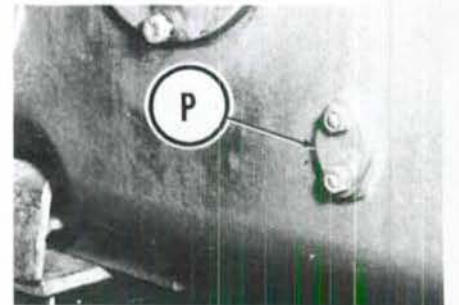
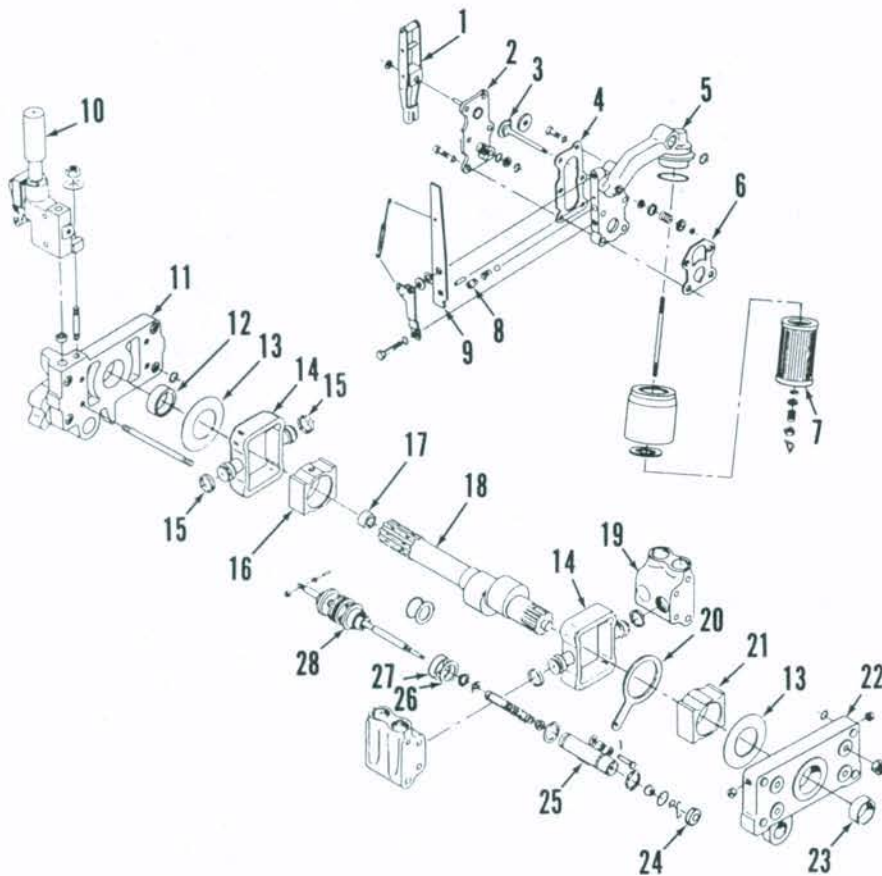

Fig. 228—Hydraulic pump positioning dowel pins (P) are located on each side of differential housing.
Fig. 237—Exploded view of main hydraulic pump. Thrust washers (13) are not used on early production pumps.
lapse and remove the drive shaft coupler and remove pto output shaft. Remove the dowel pin (P—Fig. 228) from each side of rear axle center housing, then lift hydraulic pump out through top opening.
On models equipped with ipto, Multi-Power and/or auxiliary hydraulics, drain the system and remove hydraulic lift cover as outlined in paragraph 207. Remove transmission top cover. Remove step plates and disconnect brake rods. Disconnect Multi-Power pressure line (if so equipped). Support transmission and differential housing separately, remove flange bolts and separate tractor at rear of transmission housing. Disconnect and remove auxiliary pump hydraulic lines leading to side cover and ipto clutch valve on models so equipped. Remove pump mounting dowel (P—Fig. 228)
To remove the main hydraulic pump on models not equipped with ipto, Multi-Power and/or auxiliary hydraulics, first drain hydraulic oil. Remove lift cover as outlined in paragraph 216. Remove the adjusting block and upper tube and spring from servo valve (10—Fig. 237). Collapse and remove the drive shaft coupler and remove pto output shaft. Remove dowel pins (P—Fig. 228) from each side of differential housing, then lift hydraulic pump out through top opening of housing.
nect pressure line at Multi-Power/ipto pump if so equipped. Support transmission housing and differential separately, remove retaining bolts and separate rear of tractor from transmission housing. Remove pump mounting dowels (P—Fig. 228) from each side of differential housing. Disconnect hydraulic pipes from the pumps and remove tube and spring from pump servo valve (10—Fig. 237). Slide pump assembly forward through front opening of differential housing.
Remove clip retaining control lever (1—Fig. 237), then slide control lever from control valve (28). Remove rollers and pin from end of control valve actuating rod. Remove filter assembly and intake housing (5) from pump.
**229. VALVE CHAMBERS.** Both valve chambers (19—Fig. 237) are identical and interchangeable, and each contains two sets of valve components (5 through 12—Fig. 240). To disassemble the chamber, remove snap ring (12) and thread a ¼ inch UNC bolt into plug (11) to provide leverage. Plug can be pulled by hand. A reseating reamer (Tool No. N-6007A) is available which dresses both seats in one bore at the same time. If tool is used, remove only enough metal to smooth the seats. All parts are available individually.
**230. INTAKE HOUSING.** The response control valve and nonreturn valve are contained in the intake housing (5—Fig. 237). Refer to Fig. 241 for an exploded view of intake housing and related parts.